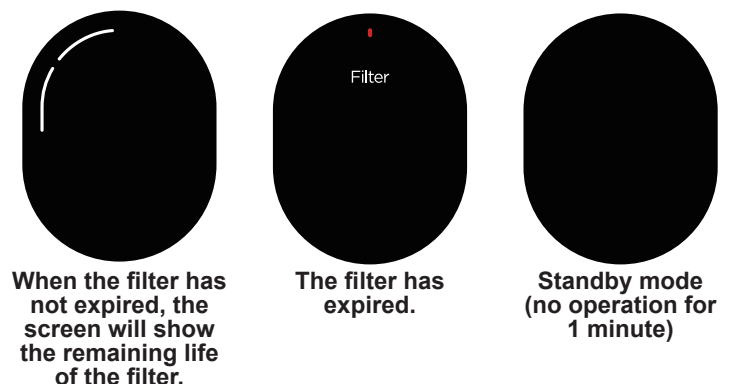

Figure 10
2. The faucet is turned off: When the RO system is powered on, the screen will show the filter's status. If there is no operation for 1 minute, the screen will switch to standby mode (Figure 10).